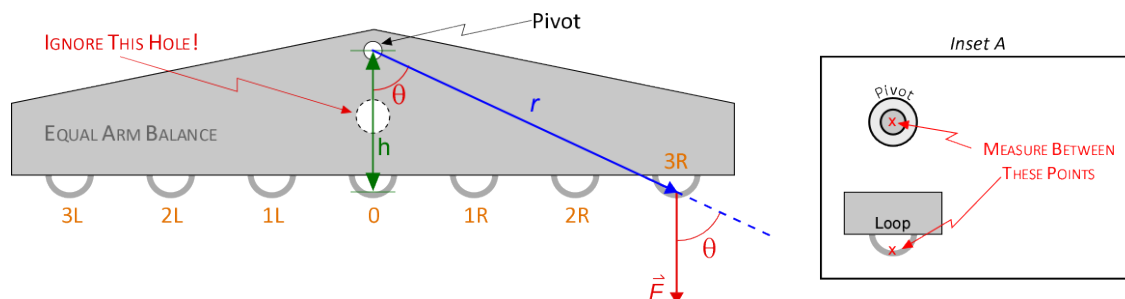

Figure 2: The Equal Arm Balance. Inset A shows details of the measurement positions on the pivot and a loop
The equal arm balance has seven loops, labeled 3L to 3R in **Figure 2**, from which mass can be suspended. Three loops are to the left of center, three to the right of center and one is in the middle. Since we need the length of the lever arm,  $r$ , and the angle,  $\theta$  for our calculations, we will begin by finding those values for our lever arm:
2. Remove the equal arm balance from the clamp and use a ruler to measure  $h$  and the values of  $r$  for each hanger position 1, 2, and 3 on the left **AND** right side of the pivot (**Figure 2, Inset A** – be sure to measure on the front side of the equal arm balance). When your measurements are finished, calculate the angle,  $\theta$  at which the force is applied to 1/10th of one degree. Note that  $h$  and  $r$  are measured from the *center of the pivot* to the *part of the loop where the mass hanger makes contact* (Figure 2). Reattach the equal arm balance to the clamp when finished.
Note that there is a hole in the equal arm balance between the pivot point and hanger position 0 (SHOWN IN FIGURE 2!) Measure  $h$  from hanger position 0 to the pivot point, **not** the hole!